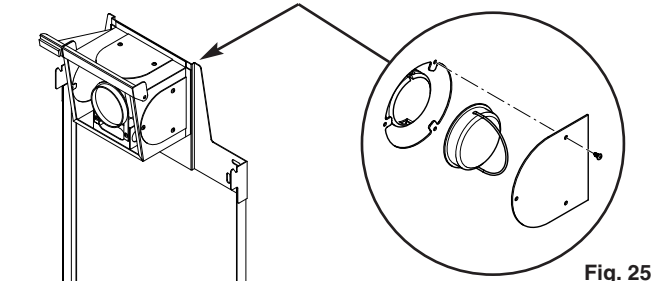

Fig. 25
1. Remove the rear air box blanking plate from the wall plate by releasing the three screws (Fig. 25).